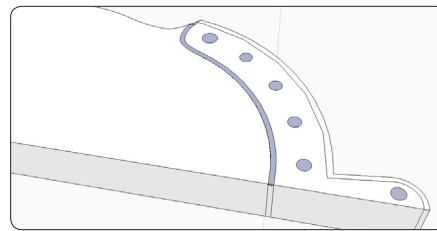
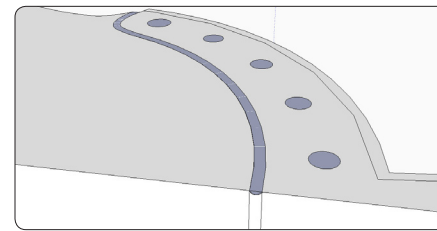

Figure 81. Use the Follow Me Tool to make the small, shallow gutter at the rear of the seat.
Figure 82. The completed gutter.
Step 1 Create a small, shallow arc shape for the gutter on the centerline edge of the seat, between the parallel curved lines in front of the spindle sockets. You can use either of those curved lines as the path for the Follow Me Tool; just extend the line you want beyond the seat's far edge, as shown in Figure 81. Execute a Follow Me command to shape the gutter, which will extend beyond the seat's edge. Execute an Intersect Faces with Selection command at that area to clean up the waste and the extension. (Scale up the seat by a factor of 10 for best results.) Figure 82 shows the finished gutter.